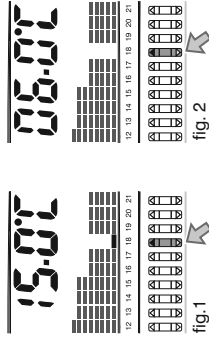

fig. 1
Decreasing the temperature in Winter mode  until **15.0°C** is reached (ex. in fig. 1), when pressed again the antifreeze temperature will appear **05.0°C** (ex. in fig. 2). If the antifreeze is switched off three dashes **- - -** will appear (see paragraph 8.9).
- 1\*) Press the function button **C** the display shows Ch (hour counter) preceded by the number of operating hours and minutes of the current day (fig. 1). To display the number of operating hours and minutes of any day (only for the weekly model), press the corresponding button (fig. 2).